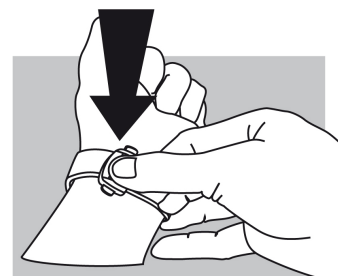

fig. 2
### How to use the helium escape valve? (fig. 2)
**Closing (fig. 2):** put the watch on your wrist and close the clasp by pushing on it with your thumb until you hear a click. (fig. 2).